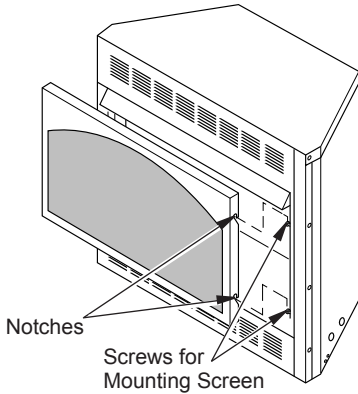

Figure 26 - Installing Fireplace Screen
4. Install fireplace screen by slipping notches of fireplace screen over screws on front of fireplace (see Figure 26, page 18).